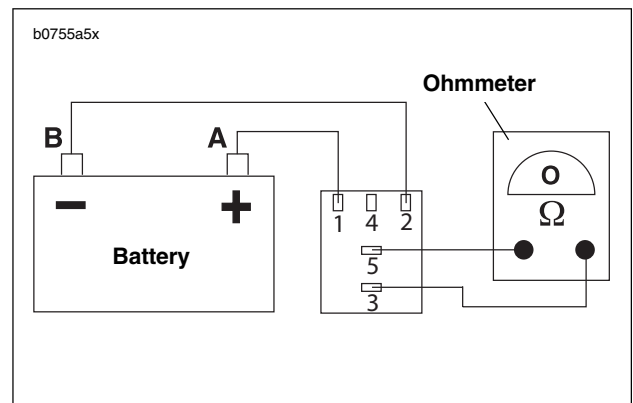

Figure 5-6. Starter Relay Test
- See Figure 5-6. Obtain a 12 volt battery and a continuity tester or ohmmeter.